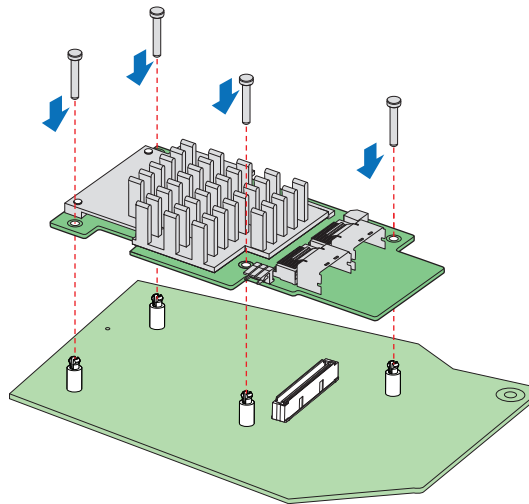

Figure 5. Installing the Intel® Integrated RAID Module RMT3CB080
4. Attach the RAID to the matching server board connector, and press the module card firmly to engage the barrel standoffs installed in step 3 (see Figure 3). Press down gently but firmly to ensure that the card is properly seated in the connectors, and then insert the four pin standoffs into the barrel standoffs respectively. The Intel[®] RAID Module RMT3CB080 is shown for illustrative purpose (see Figure 5).